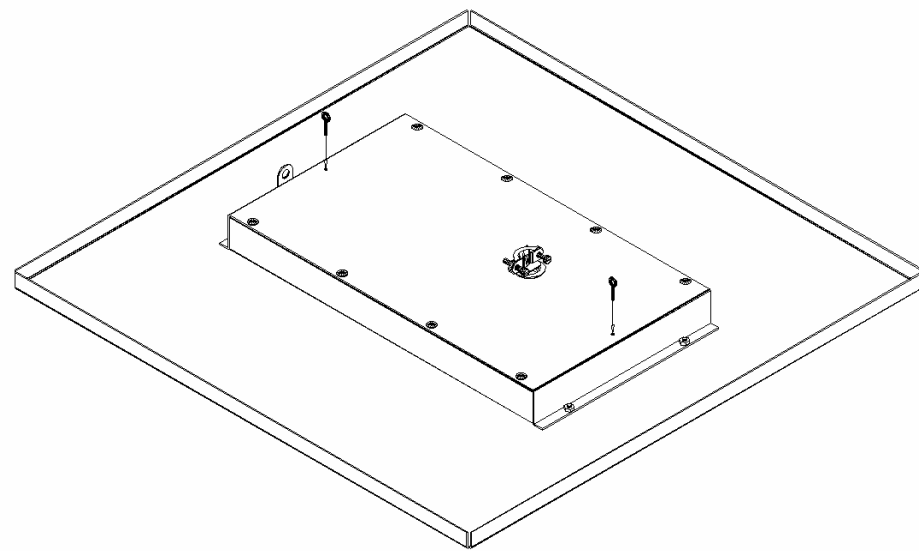

Figure 1 - Installation of eyebolts.
Step 2 – Install the eyebolts in the threaded holes located along the centerline of the AP mount edge as illustrated in Figure 1.